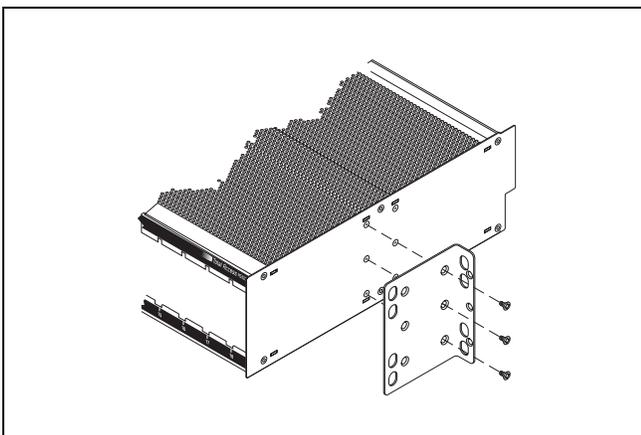

Figure 3. Mid-Mount Bracket Orientation
- Mid-mount: To mid-mount a Total Access 1500 19-Inch Chassis in the rack, use a #2 phillips-head screwdriver and attach the mounting brackets (see Figure 3) with the flanges containing the slotted rack-mounting holes facing the rear of the Total Access 1500 19-Inch Chassis. The mounting brackets should be attached using the set of mounting bracket holes closest to the front of the Total Access 1500 19-Inch Chassis.